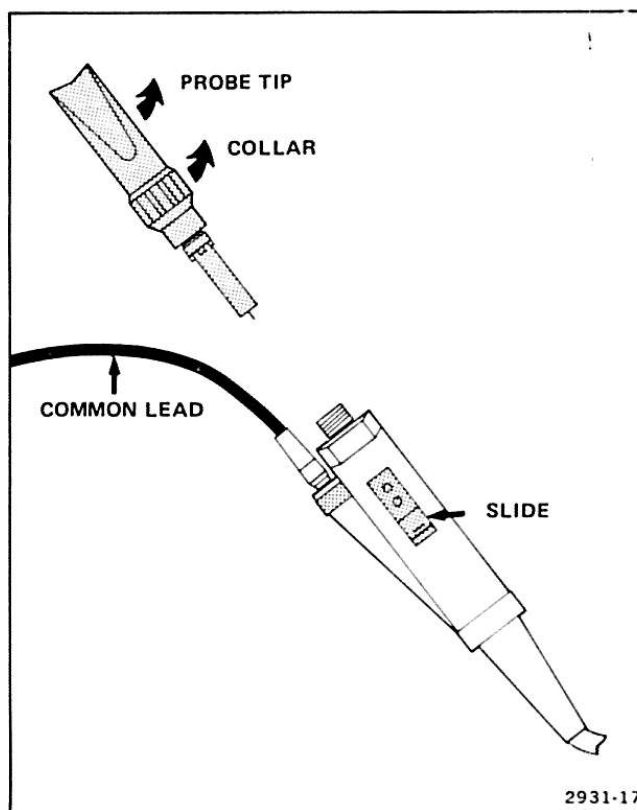

Figure 13. Replacing the 1500-V probe tip.
To replace the 1500-V Probe tip with a new one, refer to Figure 13 and perform the following steps:
2. Retract the slide to the position shown in Figure 13. The slide will stay in this position, and the spring inside the probe tip should cause the probe tip to return to its original position. If this does not occur, hold the slide in the retracted position and pull the probe tip away from the probe body until it reaches its original position.